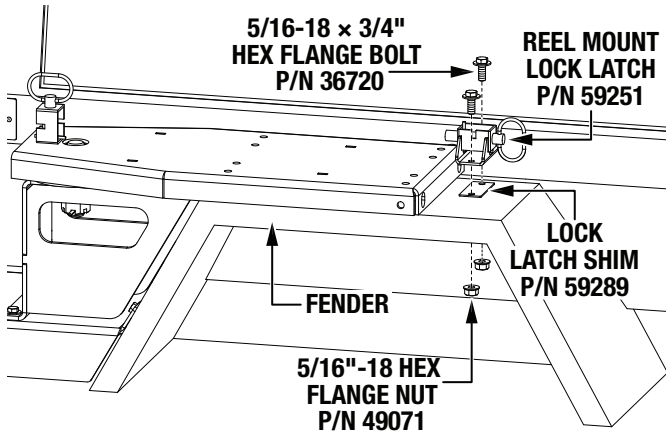

Figure 26. Reel Mount Lock Latch Installation
6. Secure the reel mount lock latch (P/N 59251) to the fender with the two 5/16-18 x 3/4" hex flange bolts (P/N 36720) and two 5/16"-18 hex flange nuts (P/N 49071). Place lock latch shims (P/N 59289) between the reel mount lock latch and fender as needed to keep the lock latch pin lined up with the hole in the right reel mount (P/N 59275). See Figure 26.